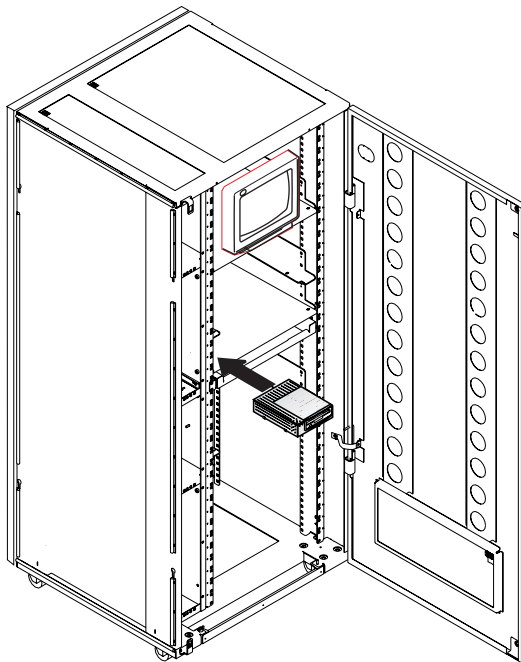

Figure 1-54. Installing the CD Drive
15. ____ Install the CD drive in the controller expansion as shown in Figure 1-54, then **go to step 17 on page 1-49** .